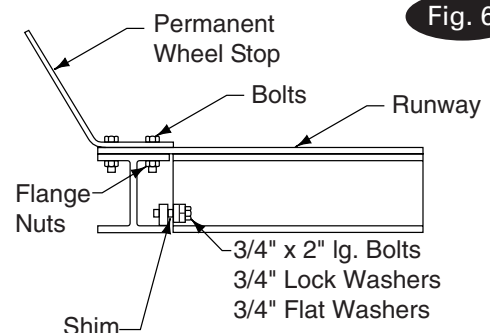

Fig. 6
- Lay right runway in place on yoke. Slide right runway toward outside of lift until holes in yoke and runway line up, Fig. 4. Hold runway in place and bolt on ramp/chock and wheel stops to runway using ten  $\frac{5}{8}$ " x 2  $\frac{1}{2}$ " bolts and flange nuts. Square up yokes with runways using four  $\frac{3}{4}$ "-10NC x 2" lg. bolts,  $\frac{3}{4}$ " flat washers,  $\frac{3}{4}$ " lock washers, and shims. Ramp/chocks go on rear, Fig. 5. and Fig. 6. Repeat for left runway.